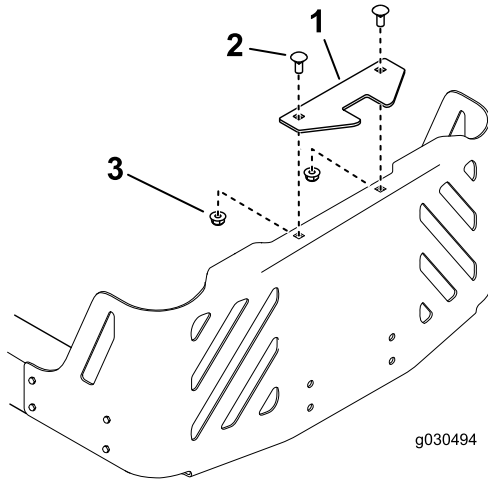

Figure 1
Note: The stabilizer bracket is only used on 2015 and newer models (Figure 1).
Note: The stabilizer bracket is used only on 2015 and newer models (Figure 1).
1. Install the stabilizer bracket to the engine guard using 2 carriage bolts (5/16 x 3/4 inch) and 2 locknuts (5/16 inch) (Figure 1).